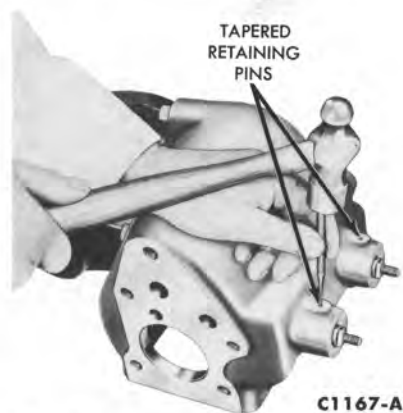

FIG. 6—Cam and Shaft Retaining Pin Removal
11. From the underside of the case, use a punch to drive out the tapered pins that hold the cam and shaft assemblies in the case (Fig. 6). **Use hard, firm blows.** Using a plastic hammer, drive the intermediate and high cam and shaft toward the outside of the case and separate the balls and spring from the plunger. Push out the cam and shaft assemblies, and remove the plunger.